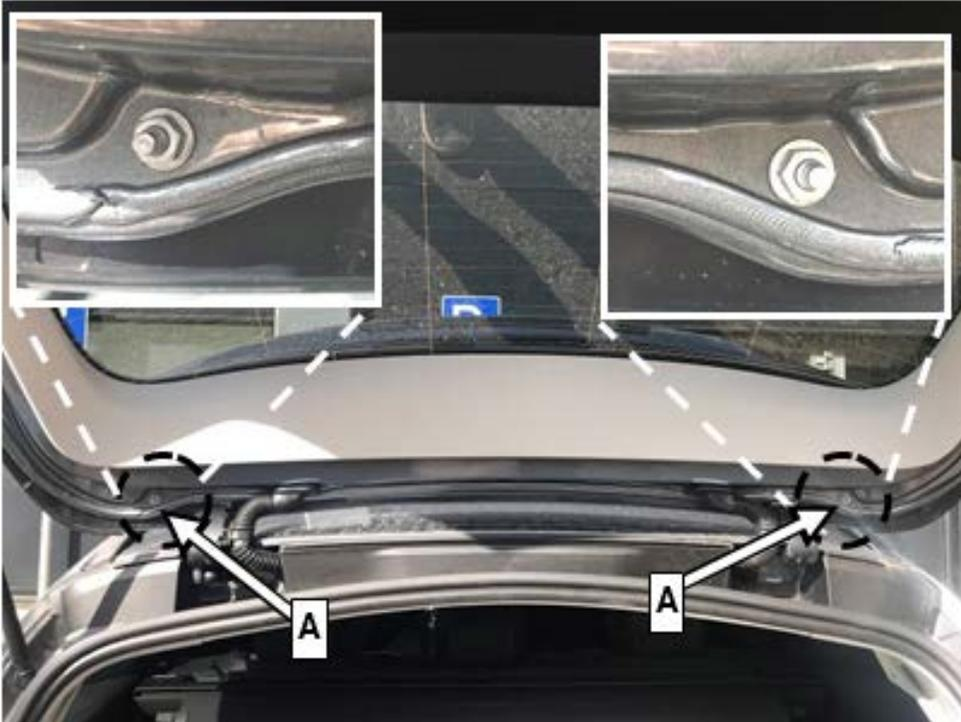

Figure 1
2. Check that all four mounting nuts (**A, figure 1**) of roof spoiler threaded connection are present.